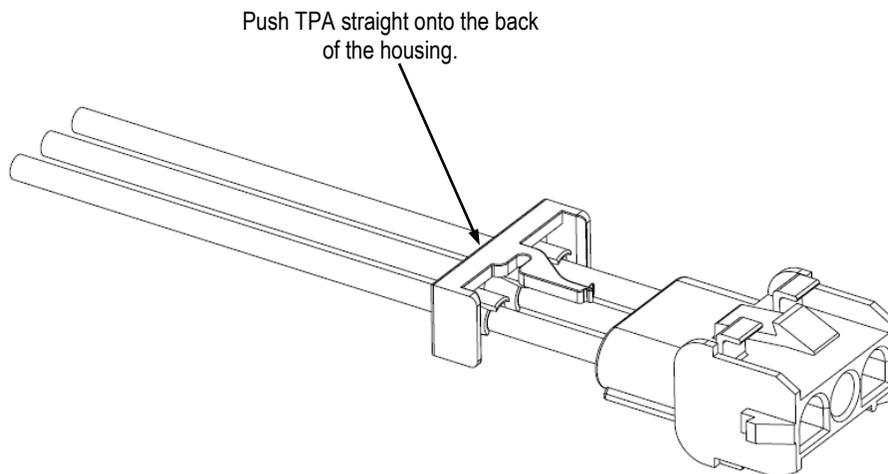

Figure 5
4. Assemble the TPA accessory onto the cap housing by pushing the TPA accessory straight onto the back of the housing, using the finger pad, until the locking arm is properly latched. The locking arm must latch into the back of the panel mount locking features. The TPA accessory should be inserted onto the housing by pushing directly on the finger pad on the TPA accessory. See Figure 5